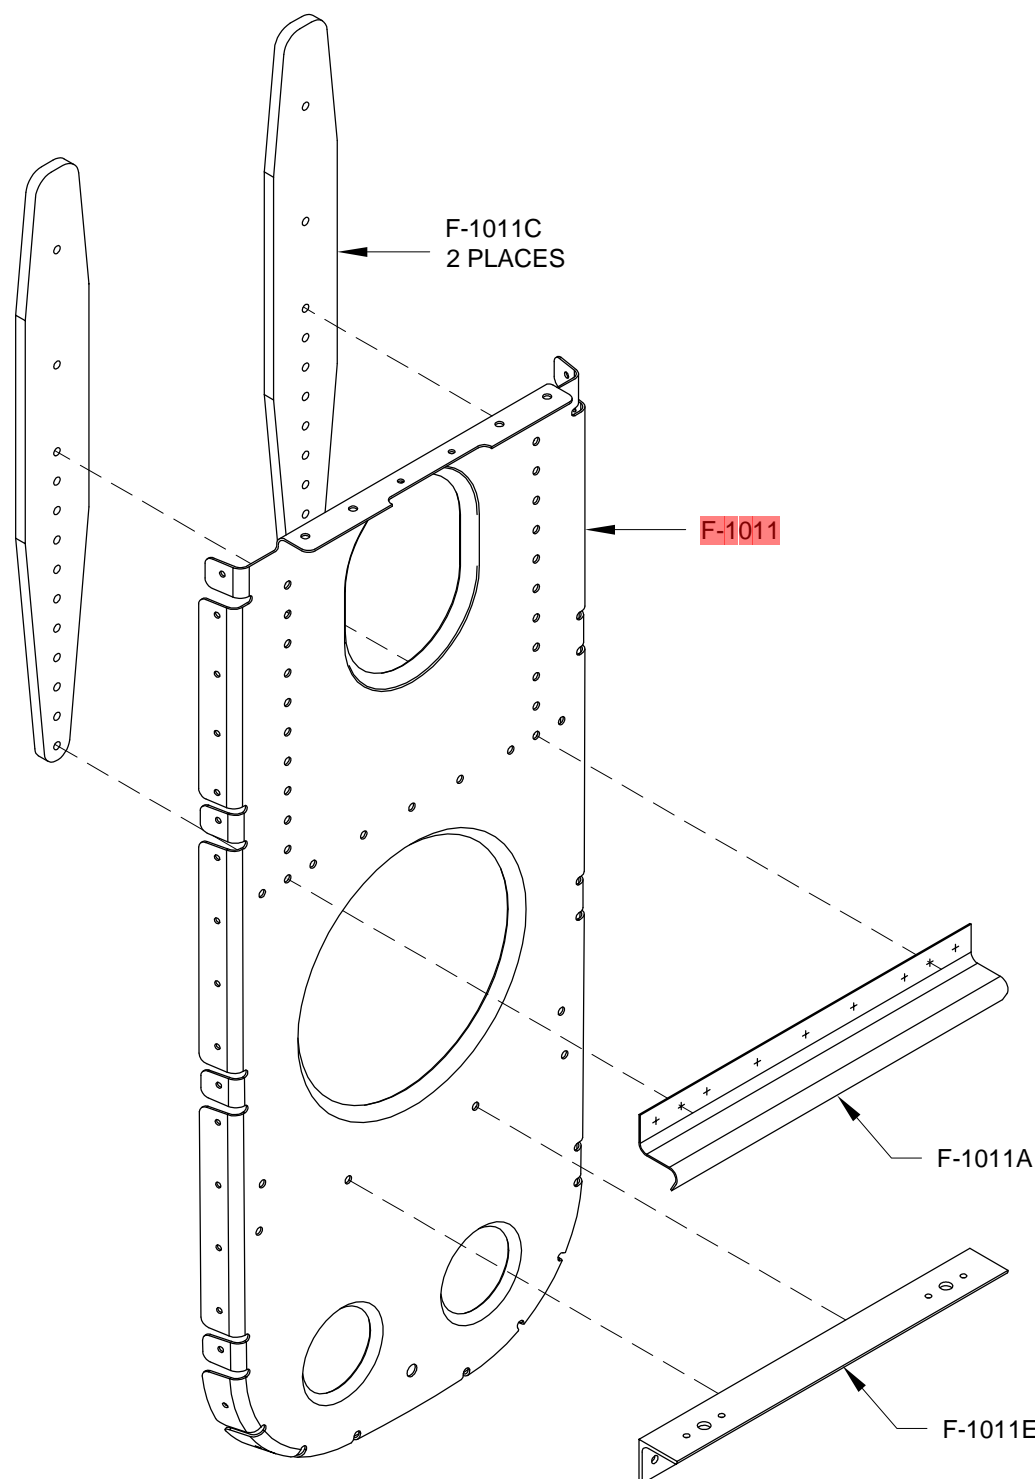

FIGURE 2: POSITIONING F-1011 BULKHEAD PARTS
Step 2: Finish the edges of the two F-1011C Horizontal Stabilizer Attachment Bars, then cleco them to the front of the F-1011 Bulkhead as shown in Figure 2. Except for the bottom hole in each attachment bar (the hole shared with the F-1011A Bulkhead Stiffener), final-drill the holes common to the attachment bar and bulkhead using a #30 drill.
Step 3: Place the F-1011A Bulkhead Stiffener on the back of the F-1011 Bulkhead as shown in Figure 2. Center the stiffener between the sides of the bulkhead with the top of the stiffener flange a quarter inch above the holes in the bulkhead as depicted in Figure 3.